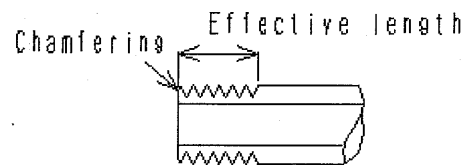

Fig. 3
- (1) Keep the length of the threads in the piping to an effective thread length. Also, the end of the threaded part should be finished by chamfering to a half pitch. (Fig. 3)